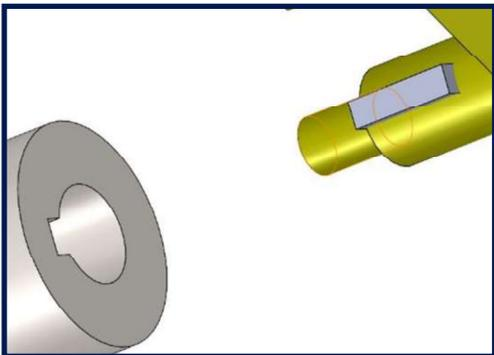
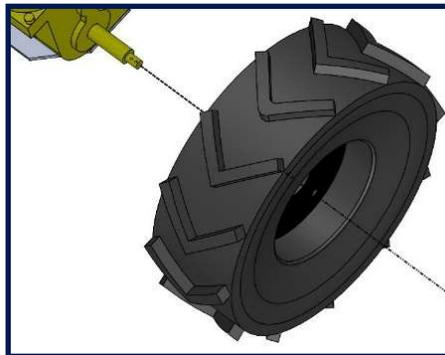
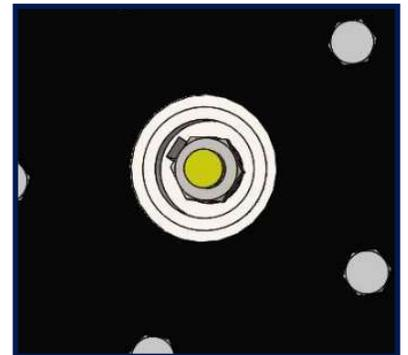

Figure 4A
Figure 4B
Figure 4C
4. Align the key slot on the hub with the key stock on the motor shaft. Slide components together and secure with the provided M10 nut. See **Figure 4A**, **Figure 4B**, and **Figure 4C**.